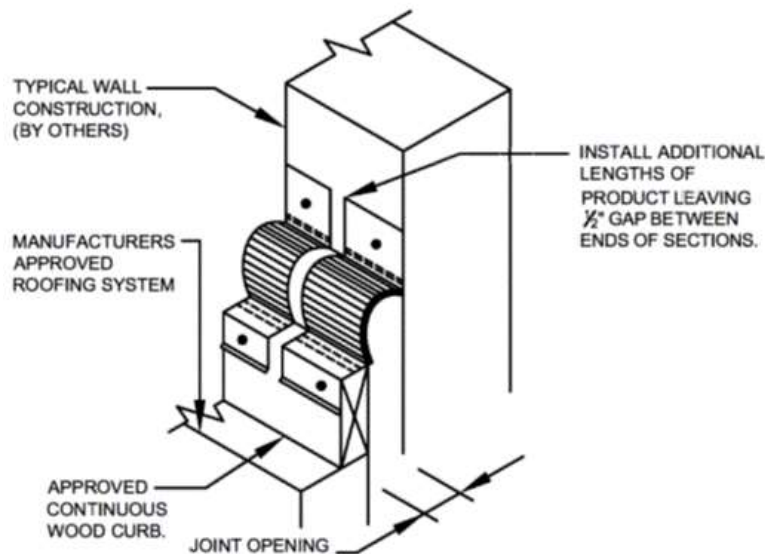

Figure 8
8. Repeat steps 1 - 4 for remaining sections, being sure to provide 1/2" gap between ends of sections. **See Figure 8**